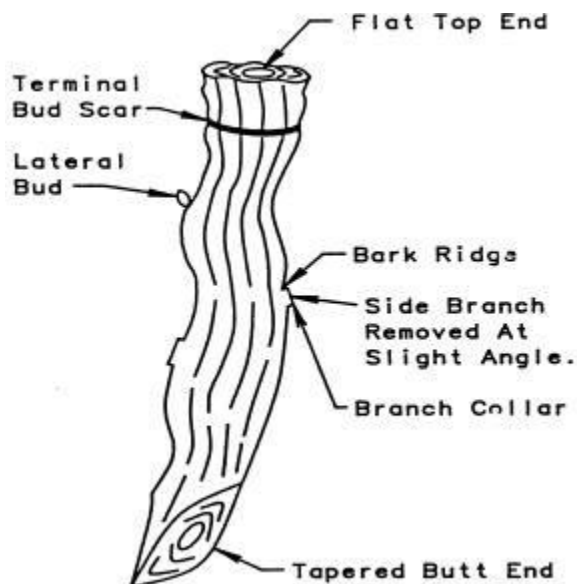

Figure 1
- c. Always plant materials with the butt end down. The butt end should be tapered to mark it for proper orientation as well as facilitate driving it into the soil if done so manually. The top end should be flat, especially on stakes and posts, to facilitate manual driving (see Figure 1).
- d. Trim lateral branches as shown in Figure 1 to leave the bark ridge and branch collar intact.